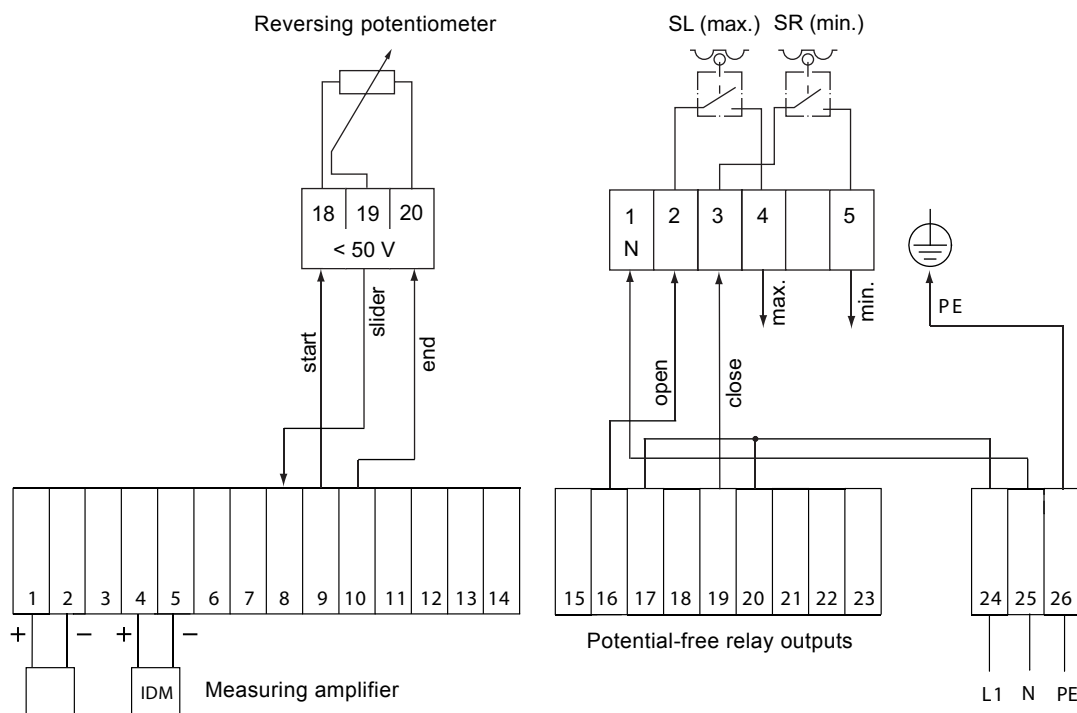

Fig. 18 Terminal connection diagram Conex® DIS-2Q
2. Establish electrical connections according to the diagram shown in fig. 18.